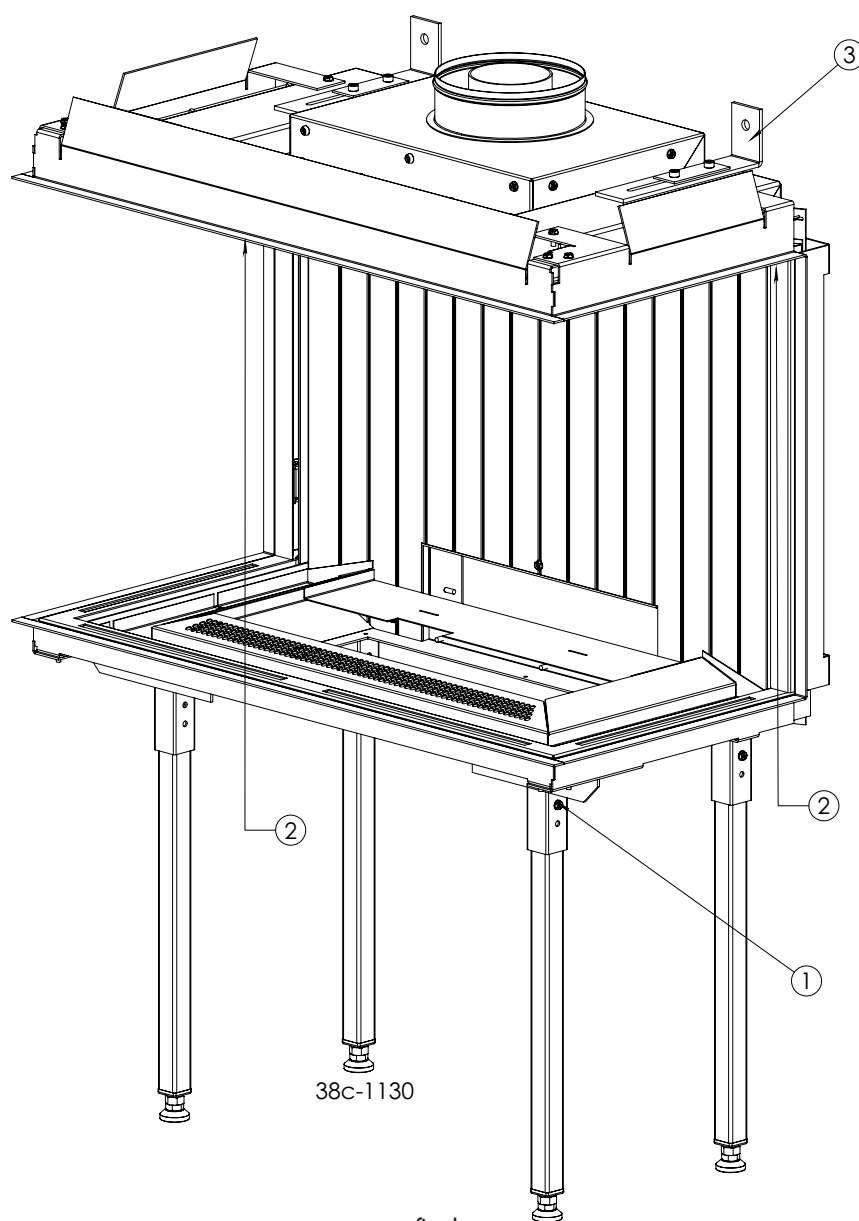

fig. 1
The built-in height will depend on how the adjustable feet are set. The feet can be adjusted to the required length, and can be fixed with self-drilling screws (1) in the interior, see fig. 1. Build the chimney breast accurately allowing for the narrow flange on the inside.
Now position the chimney breast as required, allowing enough space around the heater for the heat to escape. To ensure a good heat supply and discharge, the chimney breast must be adequately vented. Once it is in position, fix the appliance to the wall with the wall brackets (3) and two expanding shells provided, (see fig. 1). Connect the appliance. The appliance is supplied with the ignition cable coiled. Decoil the cable after installation to prevent leakage of the voltage, thus preventing poor ignition.